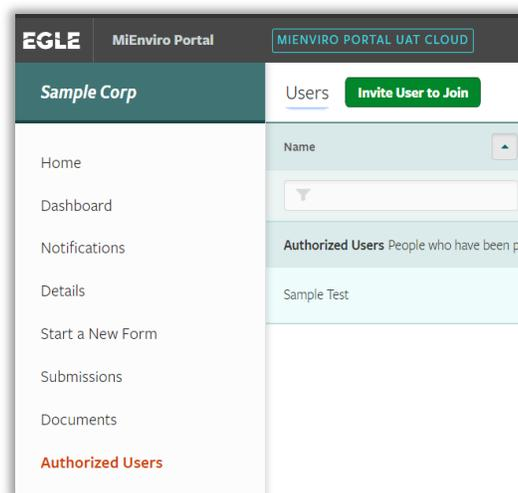

Figure 6-16 – Invite User
**Step 2:** Click on **Invite User to Join** (see Figure 6-16).